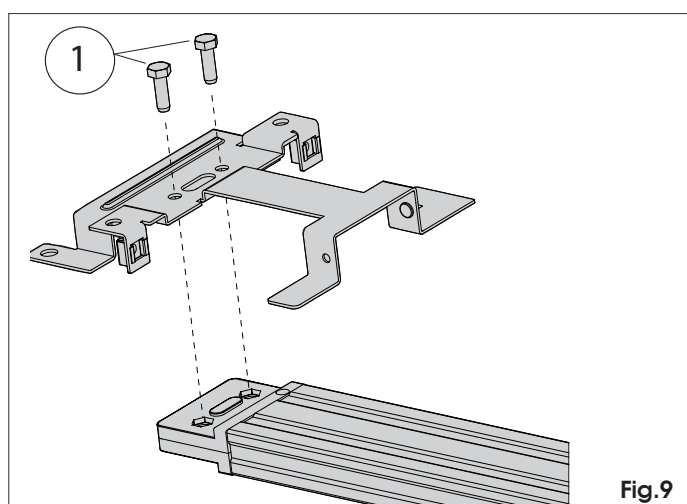

Fig. 9
Before securing the sliding guide to the ceiling, assemble the rear fitting in the seat of the drive clutch unit and fasten the screws as shown in Fig. 9 ref. ①.